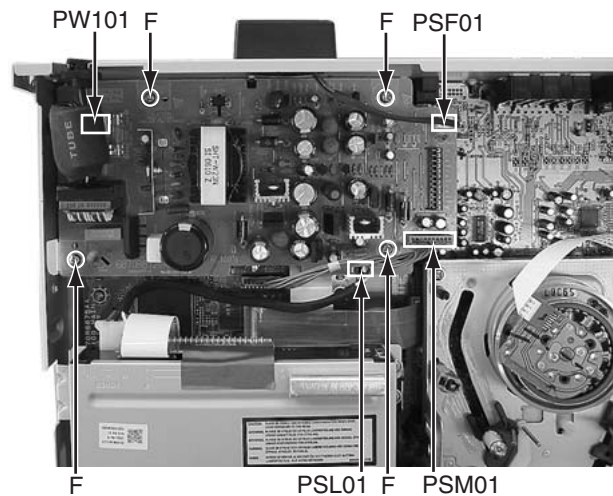

Fig.7
3.3.5 Remove the power board (See figure 7)